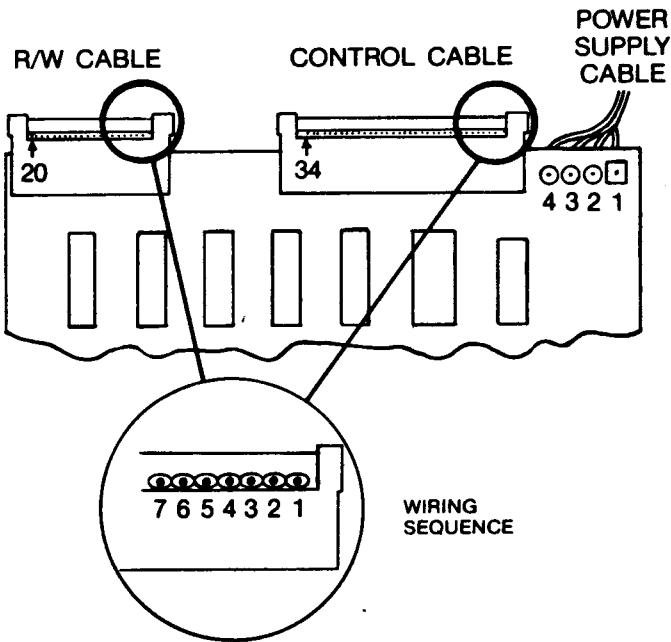

Figure 7-2
- a. Check for the presence of +12 VDC on pin 1 of the power supply connector on the drive (see Figure 7-2).
- a. Check for the presence of +5 VDC on pin 4 of the power supply connector on the drive (see Figure 7-2). If the +5V level is present and correct, go to step 2c. If the voltage is absent or incorrect, go to the next step.
- f. Check for the presence of the required DS 1 signal level at the drive (see Figure 7-2). If the signal at this point is incorrect, the cable is faulty. If the signal is correct, the drive is faulty.
- b. Check for the presence of the signals listed in Table 7-4 at the control cable connector on the drive (see Figure 7-2). If all the signals are correct, the cable is faulty. If any signal is incorrect, the drive is faulty.